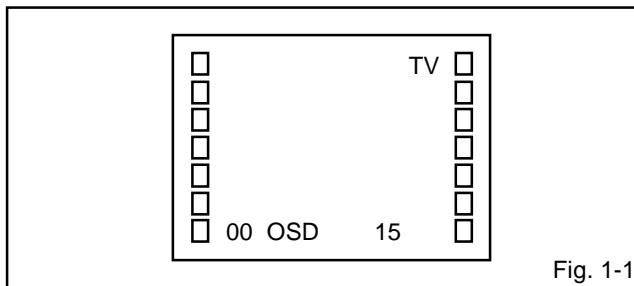

Fig. 1-1
Press the VOL. DOWN button on the set and the Channel button (9) on the remote control for more than 1 second to appear the adjustment mode on the screen as shown in Fig. 1-1.
3. Activate the adjustment mode display of Fig. 1-1 and press the channel button (02) on the remote control to select "RF. AGC".
3. Activate the adjustment mode display of Fig. 1-1 and press the channel button (01) on the remote control to select "CUT OFF".